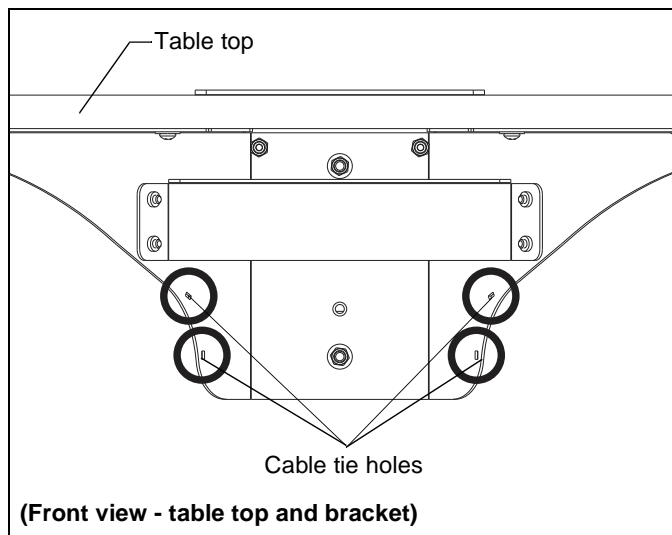

Figure 5
Cable ties (Q) may be added for cable management of keyboard cables, mouse cables and other miscellaneous cables. (See Figure 5)